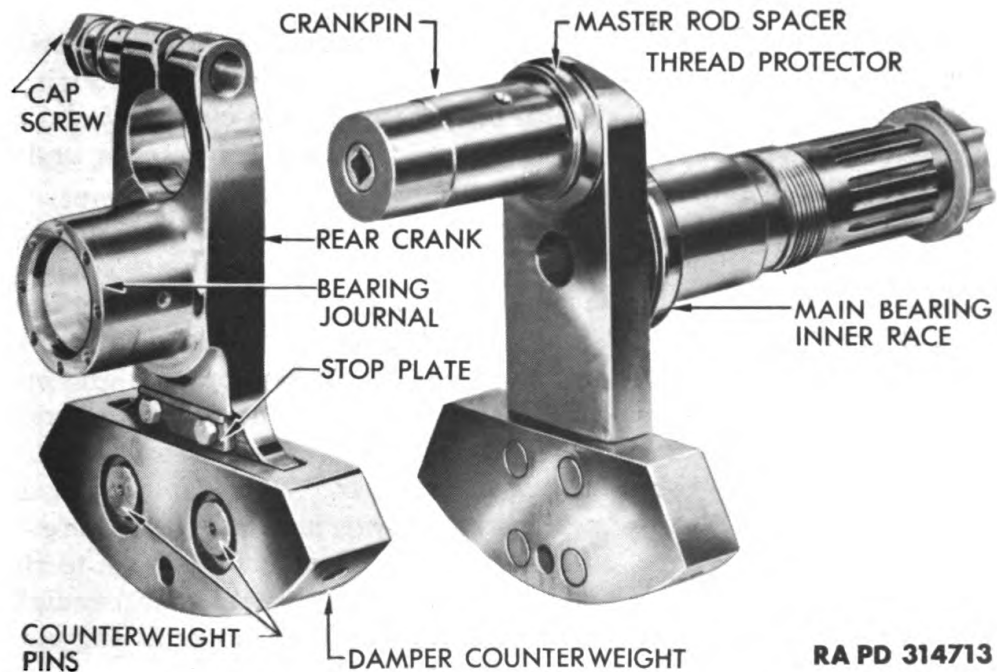

Figure 8 – Crankshaft Sections
(1) **GENERAL.** The crankshaft is a two-piece, single-throw, counterbalanced assembly, machined from nickel-steel forgings. The crankshaft consists of a front and a rear section. Each crankshaft section has a crankcheek and counterweight. The rear section counterweight is the dynamic damper designed to minimize crankshaft vibration (fig. 8). The crankcheek and counterweight in both sections have an alining hole. An alining bar is installed through these holes when crankshaft sections are being assembled to insure proper alignment (fig. 134).
(3) **REAR CRANKSHAFT SECTION.** The rear crankshaft section consists of the rear crankcheek with the dynamic damper counterweight, and the rear main bearing journal (fig. 8). The rear crankcheek is bored to receive the crankpin. It is also bored and tapped to receive the clamping cap screw, and is slotted at the top crankpin end to permit the clamping action of the cap screw. The crankshaft rear main bearing journal is hollow and is fitted with a screwed-in plug at the front, and a pressed-in plug at the rear. The crankshaft gear is secured to the end of the rear main bearing journal by cap screws.